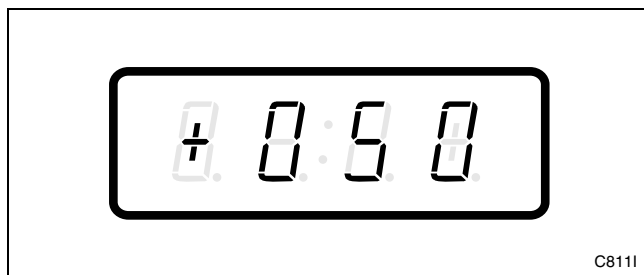

Figure 181
- Press the DELICATES (+) or the COLD (-) keypad to scroll through the programmable options until “+050” appears in the VFD. Refer to *Figure 181*.